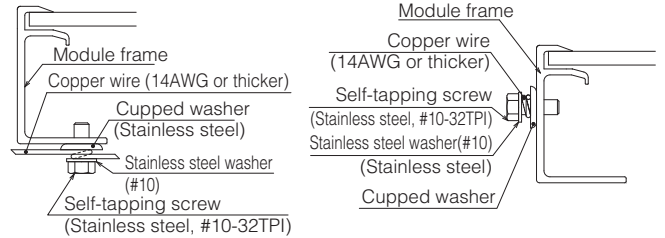

Fig. 3 Grounding method #1
- As shown in the figure 3, copper wire should be compressed by the screw head.